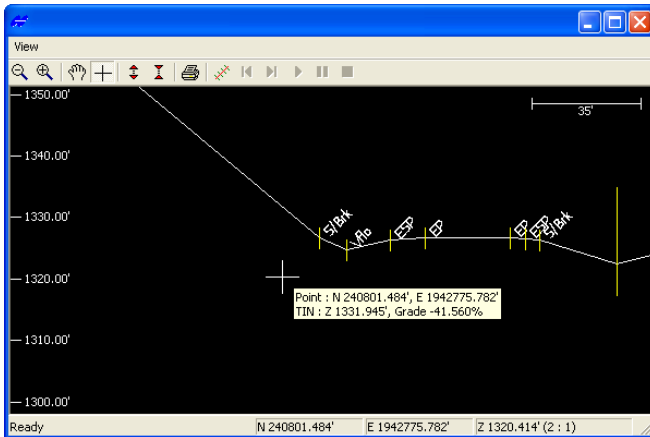

Figure 6-42. Profile View
The Profile View displays (Figure 6-42) the following information:
3. On the **View** dialog box (Figure 6-42), use the toolbar to manipulate the view. See “3D-view and Profile View Toolbars” on page 1-14 for information on the toolbar buttons.